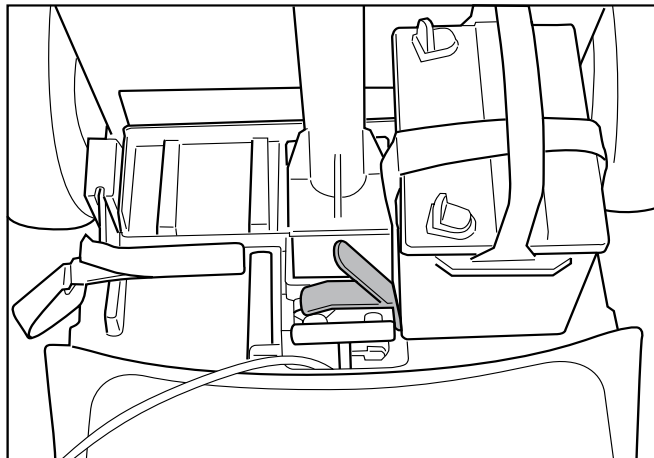

Fig. 29
- 4.** When the left battery is properly placed, and secured with hook and loop strap, it acts as a secondary securing mechanism for the latch. (Fig. 29)